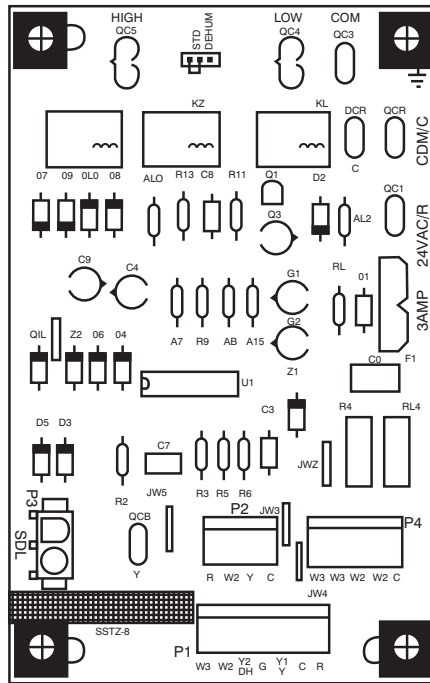

Fig. 16 - Interface Fan Board (IFB)
The cooling speed is marked “LOW” on the interface fan board (IFB) (See Fig. 16). The factory-shipped settings are noted in Table 4. There are 4 additional speed tap wires available for use in either electric heating or cooling (For color coding on the indoor fan motor leads, see Table 3). The additional 4 speed tap wires are shipped loose with vinyl caps and are located in the control box, near the interface fan board (IFB) (See Fig. 16).
2. Remove the current speed tap wire from the “LOW” terminal on the interface fan board (IFB) (See Fig. 16) and place vinyl cap over the connector on the wire.
1. Using Fig. 16, move the two pin DEHUM jumper from the “STD” position to the “DEHUM” position.
2. Remove fan speed tap wire from the “LOW” terminal on the interface fan board (IFB) (See Fig. 16).
1. Move the two pin DEHUM jumper located on control board (see Fig. 16) from the “STD” position to the “DEHUM” position.
When the DEHUM feature is not used, the continuous fan speed will be the same as cooling fan speed. When the DEHUM feature is used, the continuous fan will operate on IFB “LOW” speed when the DH control lead is not energized, or IFB “HIGH” speed when the DH lead is energized (see Fig. 16).